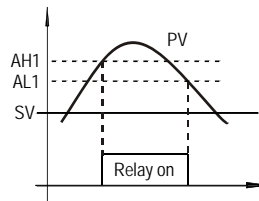
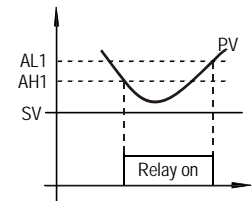

Figure 6. Absolute high alarm
Figure 7. Absolute low alarm
**Note 12.** Alarm setting. When the SSR is used as the control output, the J1 relay can be used as an alarm (when outy is set to 0, 2, 3, or 6). The controller offers two alarm settings for the J1 relay. One is controlled by parameters AH1 and AL1, and the other is controlled by AH2 and AL2. AH1 and AH2 are the temperatures to turn the J1 relay on; AL1 and AL2 are the temperatures to turn the J1 relay off. When AH1(2) >AL1(2), the alarm is set for absolute high alarm as shown in Figure 6 below. When AH1 (2)<AL1(2), the alarm is set for absolute low alarm as shown in Figure 7 below. Users can press **⊖** key to tempoarily turn off the alarm. The alarm will be on again if the alarm set temperature is reached again. To permanently deactivate the alarm, set AH1=AL1 or AH2=AL2.